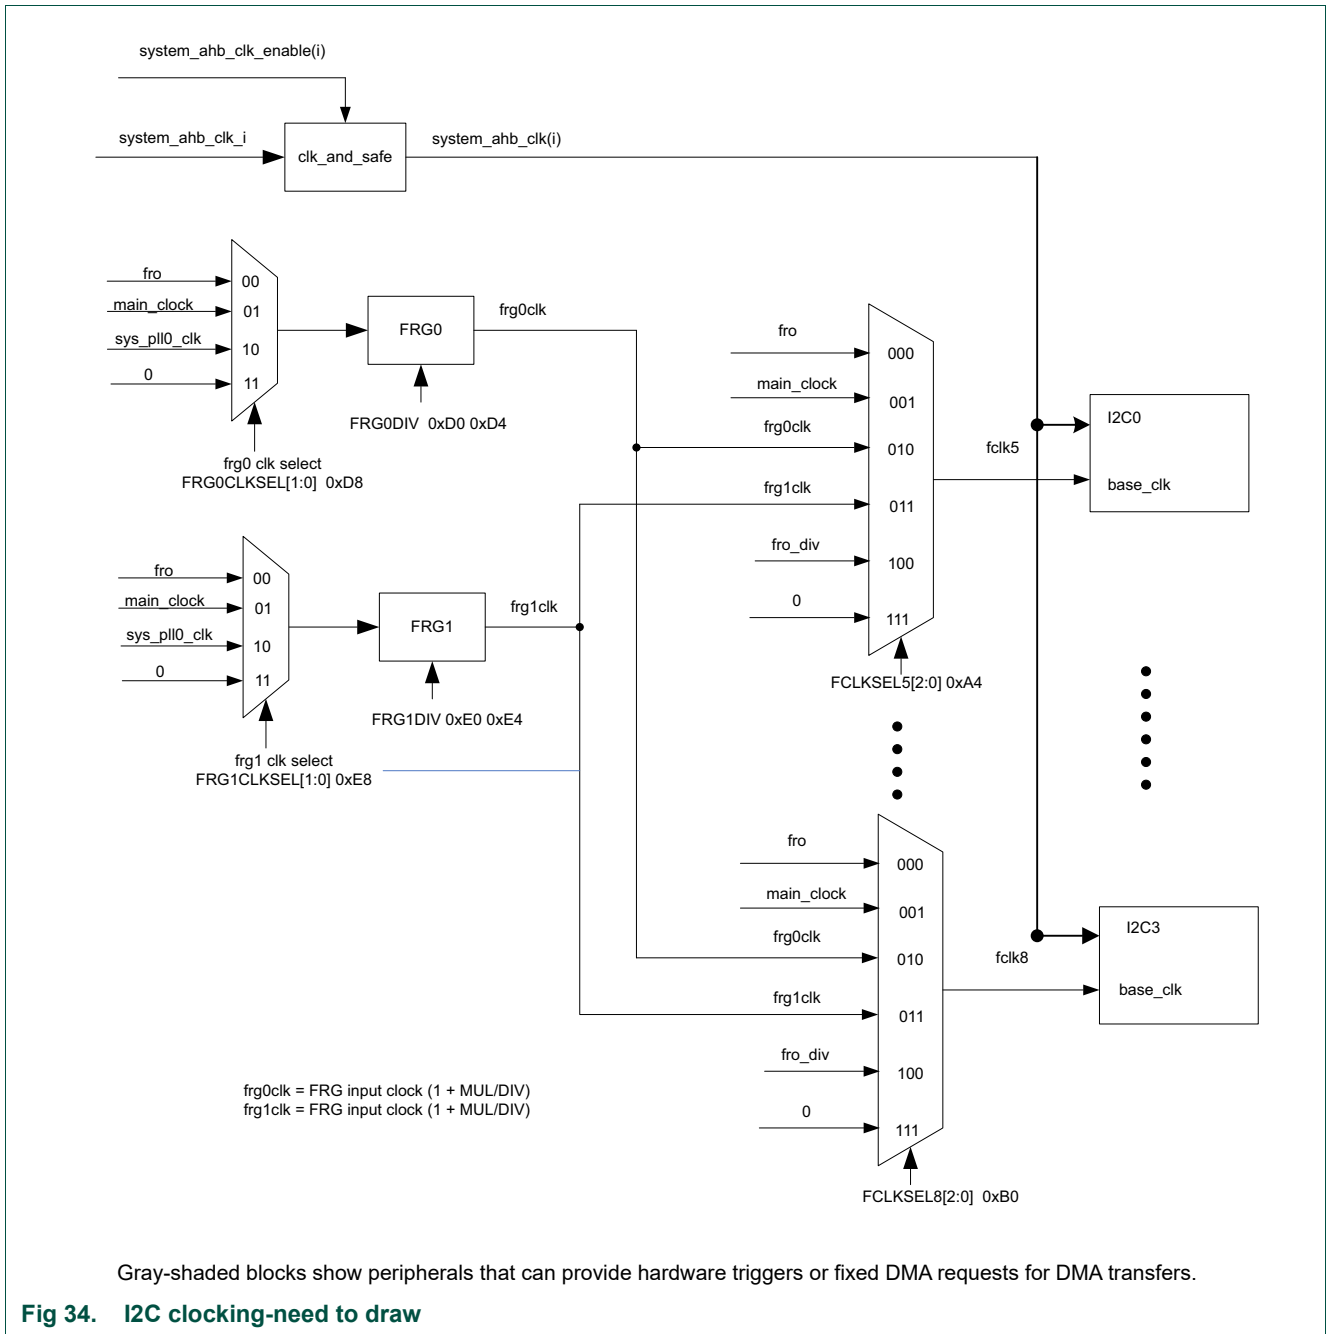

Fig 34. I2C clocking-need to draw
- The peripheral clock for the I2C is the system clock (see Figure 34).